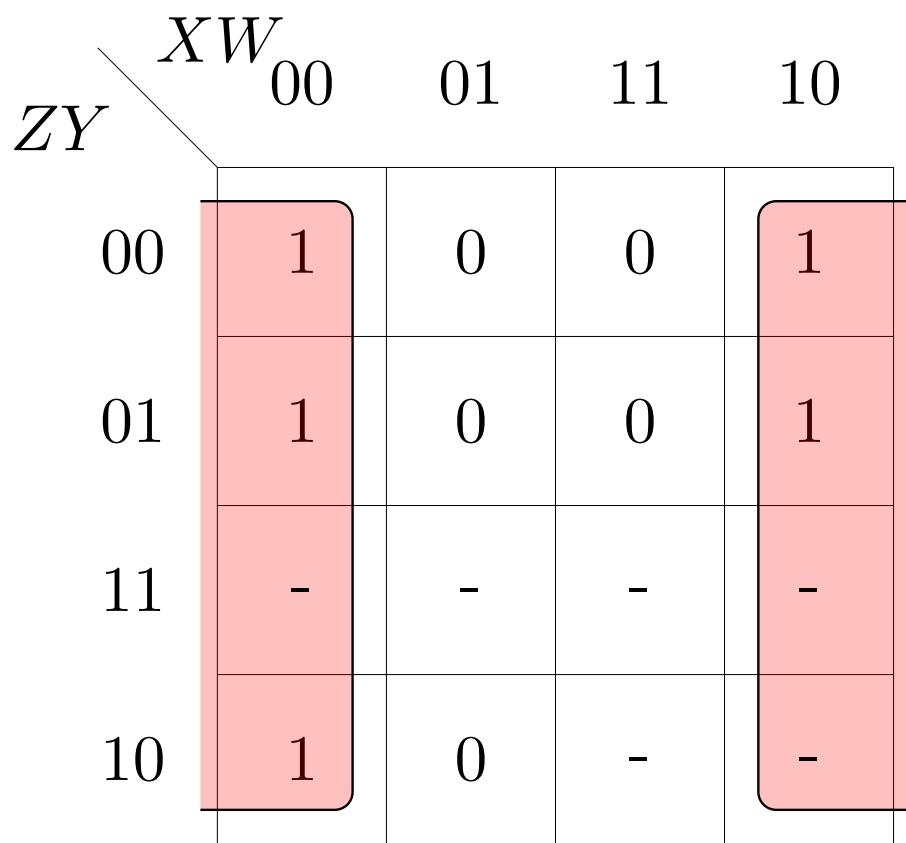

Figure 4.5: K-map for A with don't care
2. The revised K-map for A is available in Fig 4.5. Show that